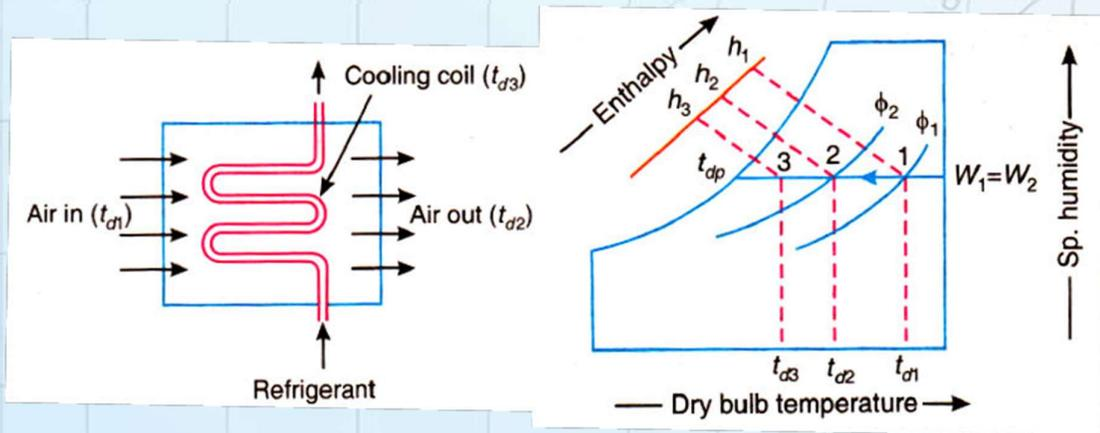

Fig.2.5 – Sensible cooling process
- ▶ Let air at temperature t_{d1} passes over a cooling coil of temperature t_{d3} as shown in Fig. 2.5.